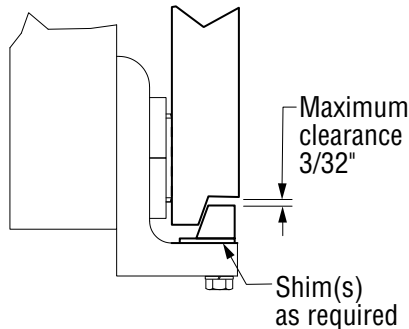

Figure 4-3, Lower Hook Clearance
7. Install the bolt-on lower hooks. Inspect clearance to the carriage on lower hooks. Adjust the lower hooks for a maximum clearance of $3/32$ " (see Figure 4-3). Tighten the bolts to 40-50 ft-lbs.